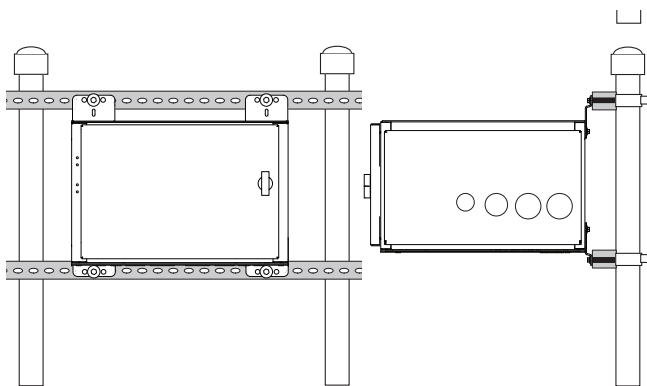

Fig. 2-4, FBE2322-AEE H-Frame Mounting Example.
2. Position the enclosure on an H-frame of structural slotted channels 17" apart (for FBE2322-AEE) on center (see Fig. 2-4).